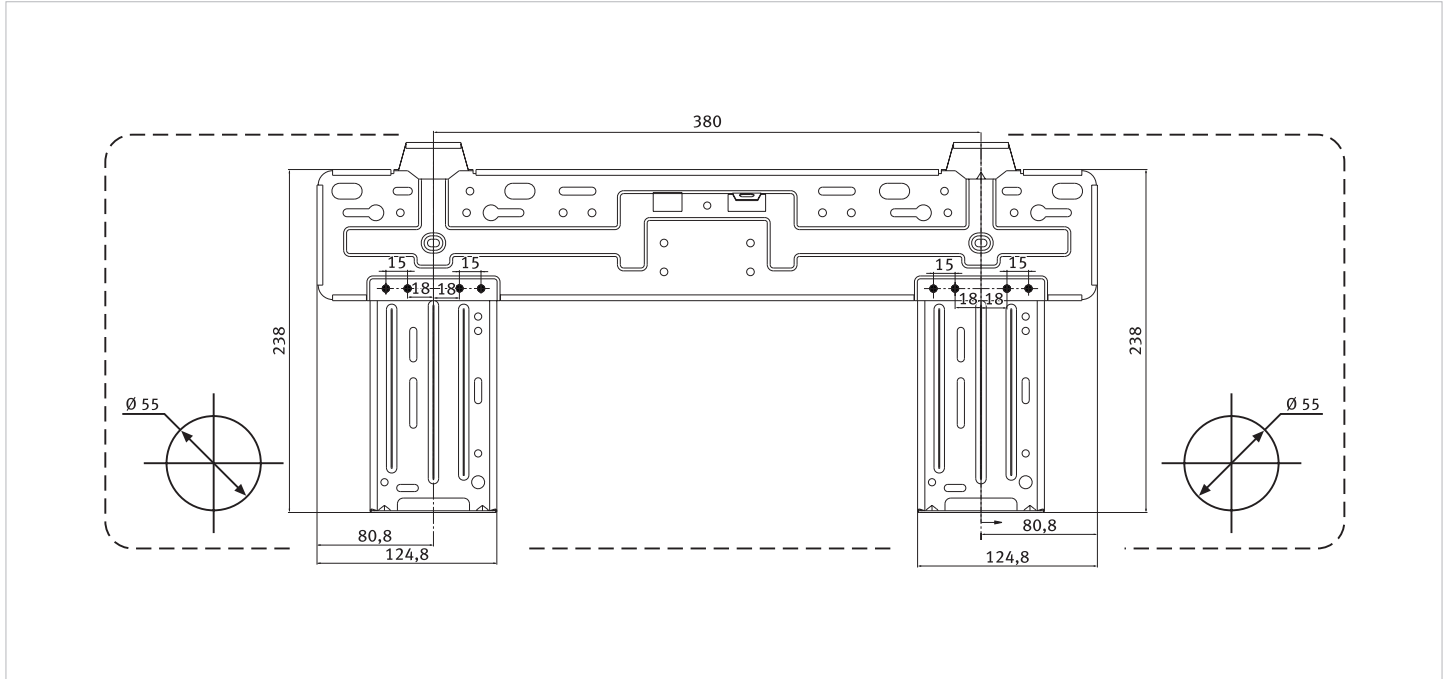

Fig. 9.6 Mounting plate for 18-025 NWI and 18-035 NWI.
In this case, a suitable hole must be made in the wall behind the unit (see Figures 9.6 and 9.7).
- Drill a hole in accordance with the diameter and position as indicated in Figures 9.6 and 9.7, ensure the hole is slightly descending to the outside to allow for a fall in the drain line.
In this case holes do not have to be made in the wall since the indoor unit body has knock outs which can be opened to allow the pipes to exit the unit: choose the most convenient one for the desired outlet position (see Figures 9.6 and 9.7).